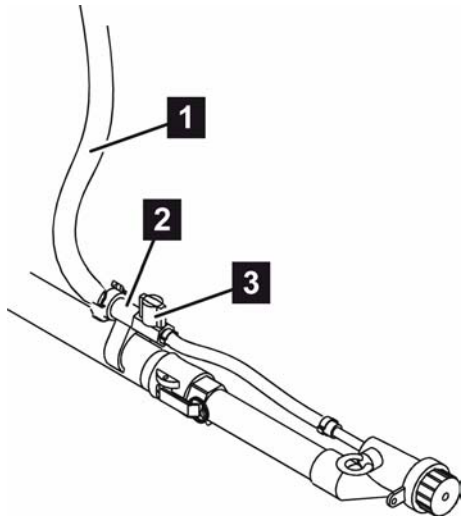

Fig. 34: Compressed air supply on sprayer
17. Connect the sprayer (2) to the mortar hose (1).
18. Ensure that the air cock (Fig. 34/3) on the sprayer is closed.
19. Connect compressed air hose (Fig. 34/1) to the sprayer (Fig. 34/2) and to the compressed air fitting.